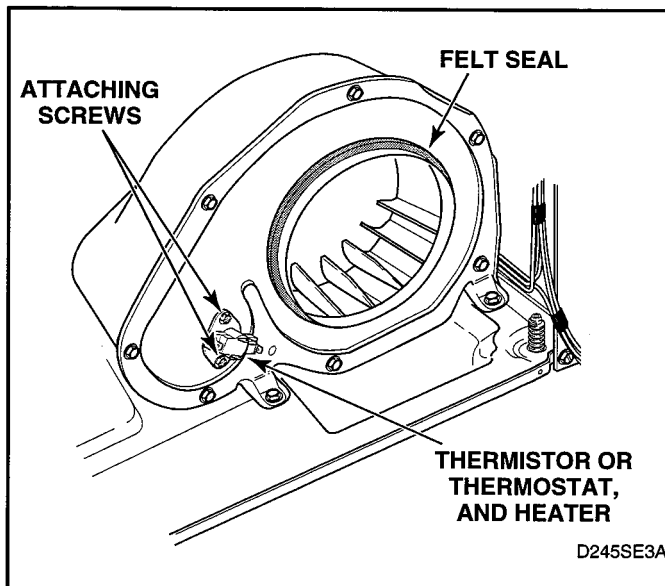

Figure 5-14
- Disconnect wires and remove thermostat attaching screws, thermostat and heater. See figure 5-14.
IMPORTANT: When reassembling, be sure felt seal on exhaust fan cover makes airtight seal on flange of duct. See figure 5-14. If the seal is installed improperly, the airflow through the exhaust system will be restricted which can adversely affect dryer performance.